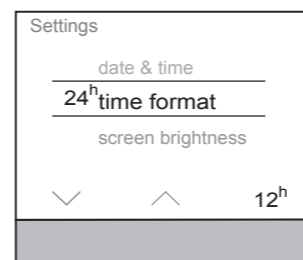

Figure 11: Time format setting
- The time format changes from the 24h to 12h display. In the function line (8) the 24h appears in order to switch back again to 24h (figure 11).